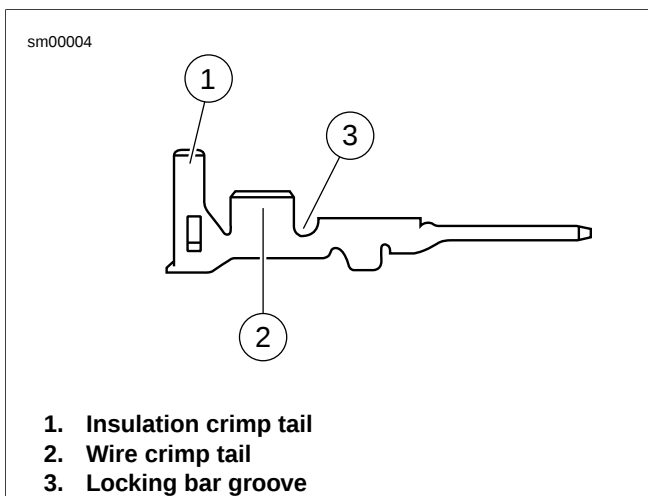
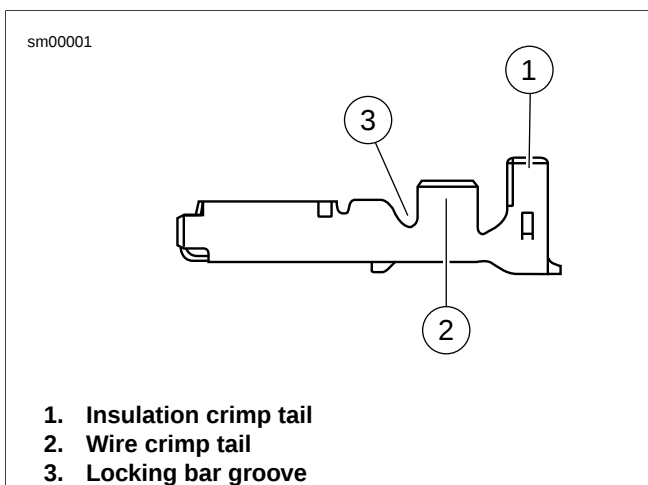

Figure A-61. Tyco 070 Multilock Unsealed Connector: Pin Terminal
Figure A-62. Tyco 070 Multilock Unsealed Connector: Socket Terminal
- See Figure A-61 and Figure A-62. Select the pin/socket terminals from the parts catalog and identify the insulation crimp tails (1) and the wire crimp tails (2) and the groove for the crimp tool locking bar (3).
See Figure A-61 and Figure A-62. Hold the terminal with the insulation crimp tail (1) facing up. The tool will hold the terminal by the locking bar groove (3) and simultaneously crimp around the stripped lead and the insulation.